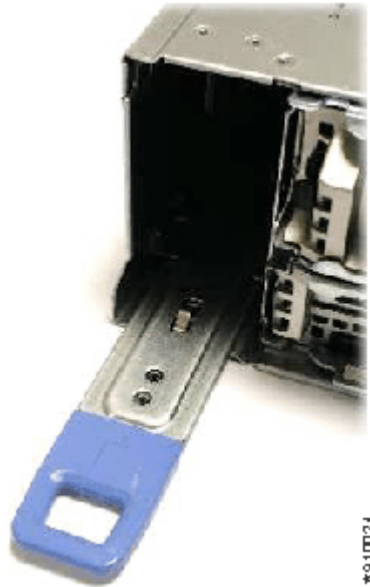

Figure 105. Sliding out the power interposer
2. Remove the power interposer by pulling on the blue handle that is located beneath the PSU slot. Figure 105 on page 145 shows an example.